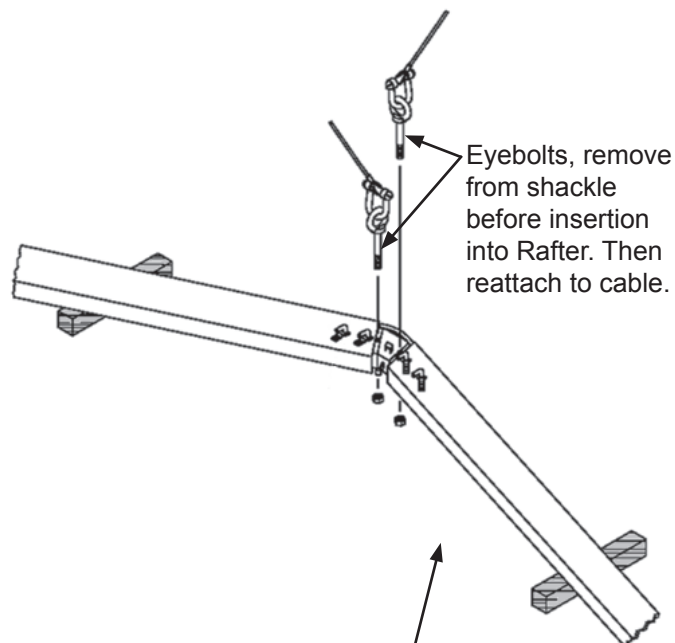

Figure 2.3b
- 2.3.3 Remove the Eye-bolt from the Roof Cable (unhook from shackle at end opposite turnbuckle). At the Ridge Weldment on both sides of the cabled bays, insert the Eye-bolt. **See Figure 2.3b.** At the End Arch (first arch) the Eye-Bolt must face toward the ground (toward the second arch when raised) and on the second arch the Eye-Bolt must face upward, away from the ground (toward the first arch when raised). Connect the Roof Cable Assembly (end opposite turn-buckle) to each Eye-Bolt using the shackle provided; typical of four locations. The turn-buckle end must remain free until the arches are raised.